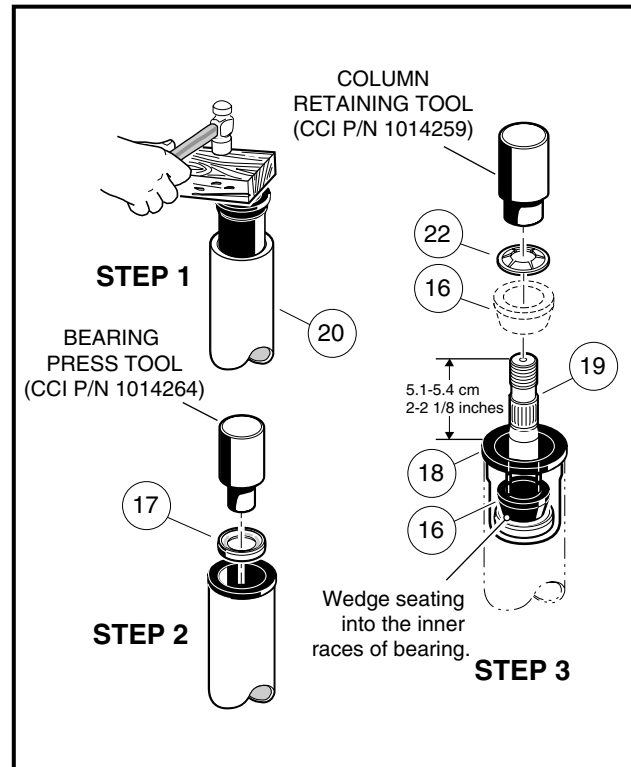

Figure 7-6 Steering Shaft – Top End
5. Turn the assembly over and place the shaft (19) on a bench. Install the wedge (16) and retaining ring (22) onto the top of the shaft. Be sure the prongs on the retaining ring face up and away from the wedge. Use a steering column retaining ring tool (CCI P/N 1014259) to seat the retaining ring to the proper depth. Support end of tube while pressing. If you do not have the recommended tool, use the same tube as was used in step 2 to press the retaining ring onto the top of the shaft. The retaining ring should be pressed onto the shaft until 2 to 2-1/8 inches (5.1-5.4 cm) of the shaft extends from the top of the bearing seat in the steering tube (**Figure 7-6, Page 7-7**).